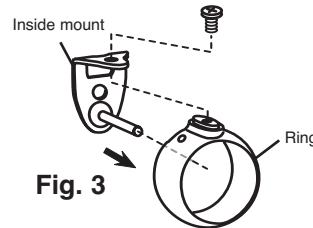

Fig. 3
3. Using screw from step 2, attach side mount to ring (fig. 3).